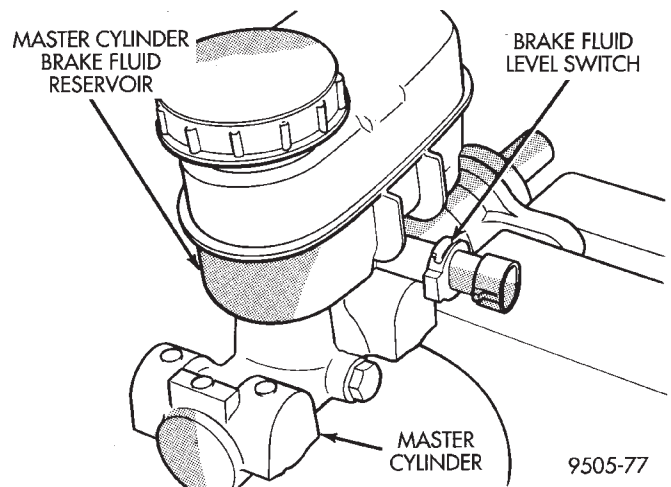

Fig. 152 Removing Fluid Level Switch From Reservoir
(3) While compressing retaining tabs, grasp opposite end of brake fluid level sensor and pull it out of master cylinder fluid reservoir (Fig. 152).